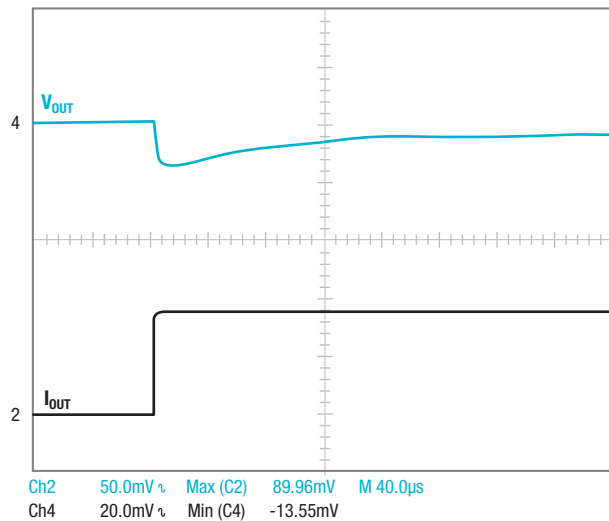

**Figure 10.** TPS53119 transient response.
**Figure 10** shows an example of a fast transient response supported by the TPS53119 with D-CAP control mode. D-CAP2 control mode also provides an ultra-fast load-step response and does not require an external phase compensation network. To learn more about TI's DC/DC control modes, see the “Control-Mode Quick Reference Guide: Step-Down Non-Isolated DC/DC.”